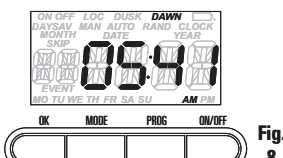

Fig. 8
- The timer will now display **DAWN** and the calculated sunrise time for your location (Fig. 8).